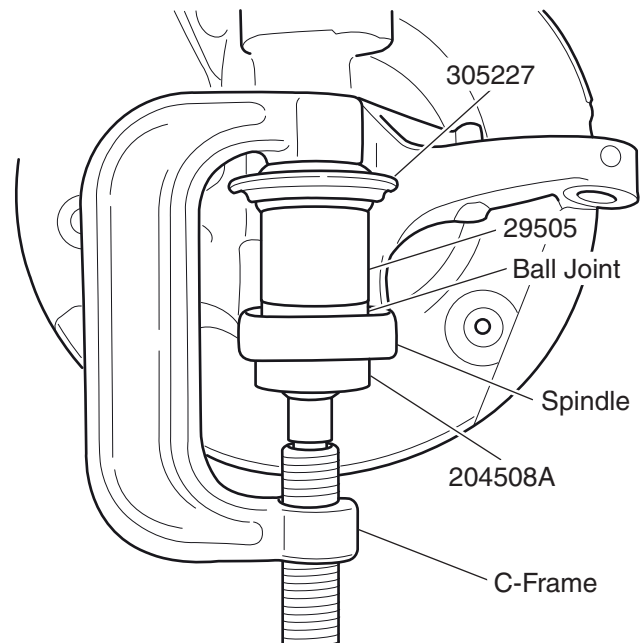

Figure 2. Ball Joint Installation
3. Position 204508A, 29505 and 305227 on the ball joint as shown in Figure 2.